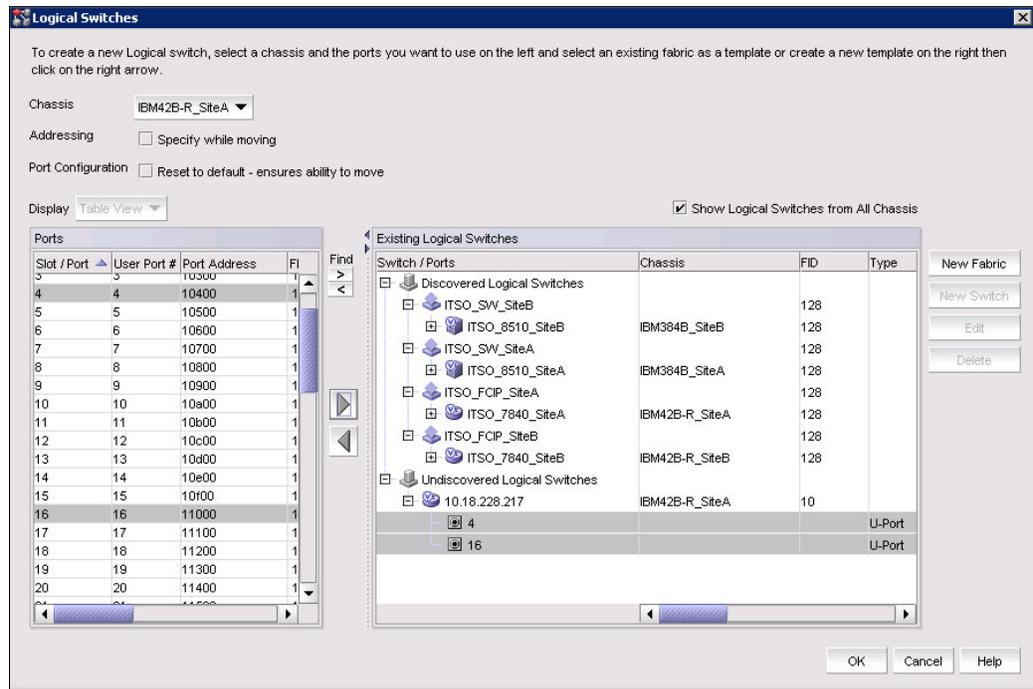

Figure 6-36 Assign ports to logical switch
- Assign physical ports to this logical switch (Figure 6-36). Here we assign the following ports to it: One port (Port 4) for IFL connection to the base logical switch on the same chassis, and one port (Port 16) for ISL connection to ITS0_8510_SiteA.